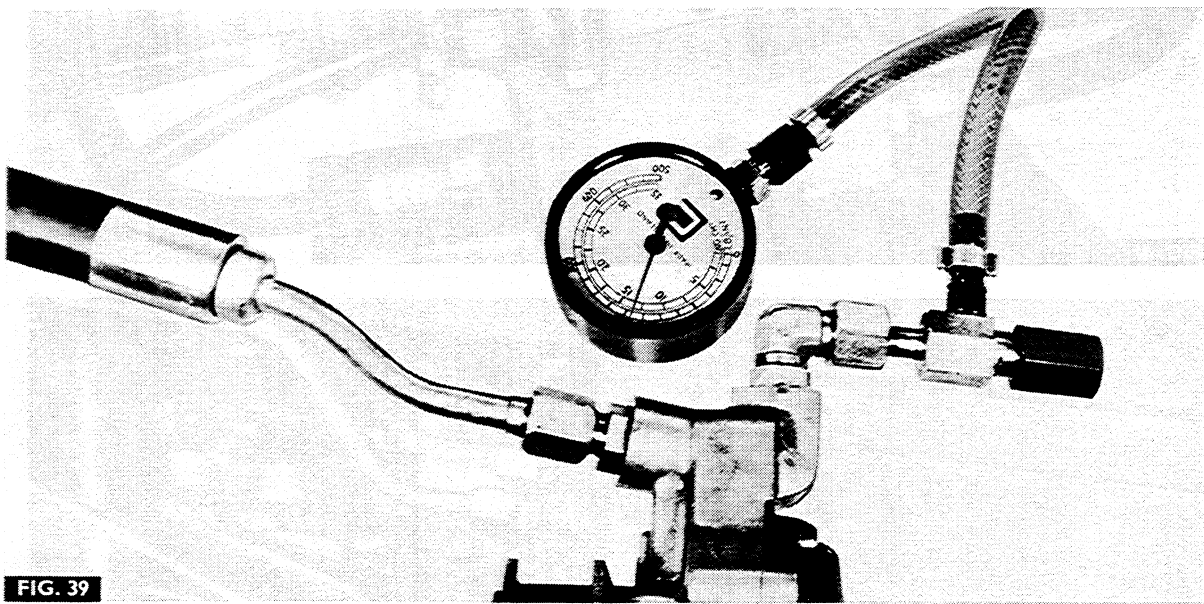

FIG. 39
3. Fig. 39. Remove the MF 148A gauge and adapter MF 810-4/1 and fit in their place, adapter MF 260-4/1 and plug MF 260-4/4 as shown, then screw in the MF 260 gauge.